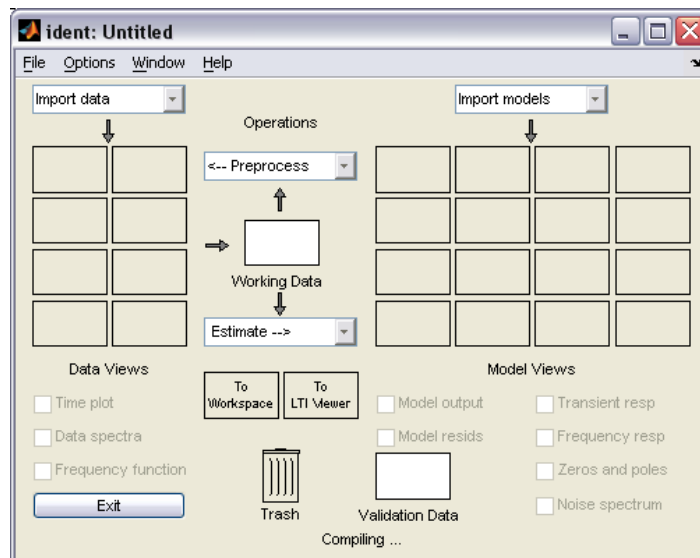

Figure 14 Matlab identification interface
- Type *ident* at the Matlab command line. The identification interface will open (Figure 14).